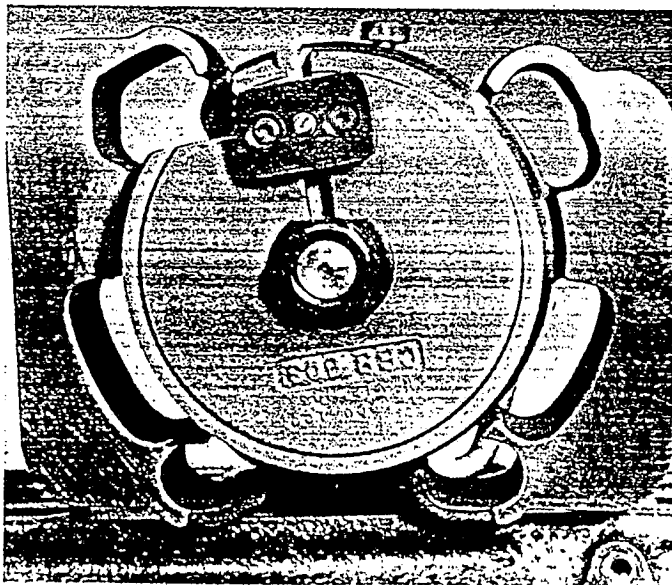

FIGURE 3
1. Select proper cutter plate, install plate on shaft of Porta-Matic and secure with nut and washer. (Figure 3.)